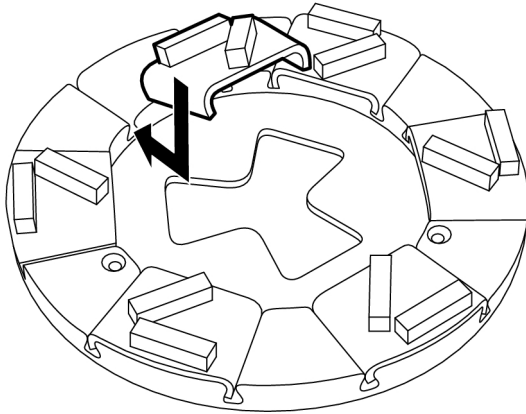

Figure 4-13. Fitting grinding tools
1. Slide the grinding tool diagonally, from above, down into the appropriate guide slot on the tool holder, see Figure 4-13, page 25. Then push the tool fully into the guide slot.
2. Slide the new grinding tool diagonally, from above, down into the appropriate guide slot on the tool holder, see Figure 4-13, page 25. Then push the tool fully into the guide slot.
3. Attach the appropriate tool to the machine, see Figure 4-13, page 25